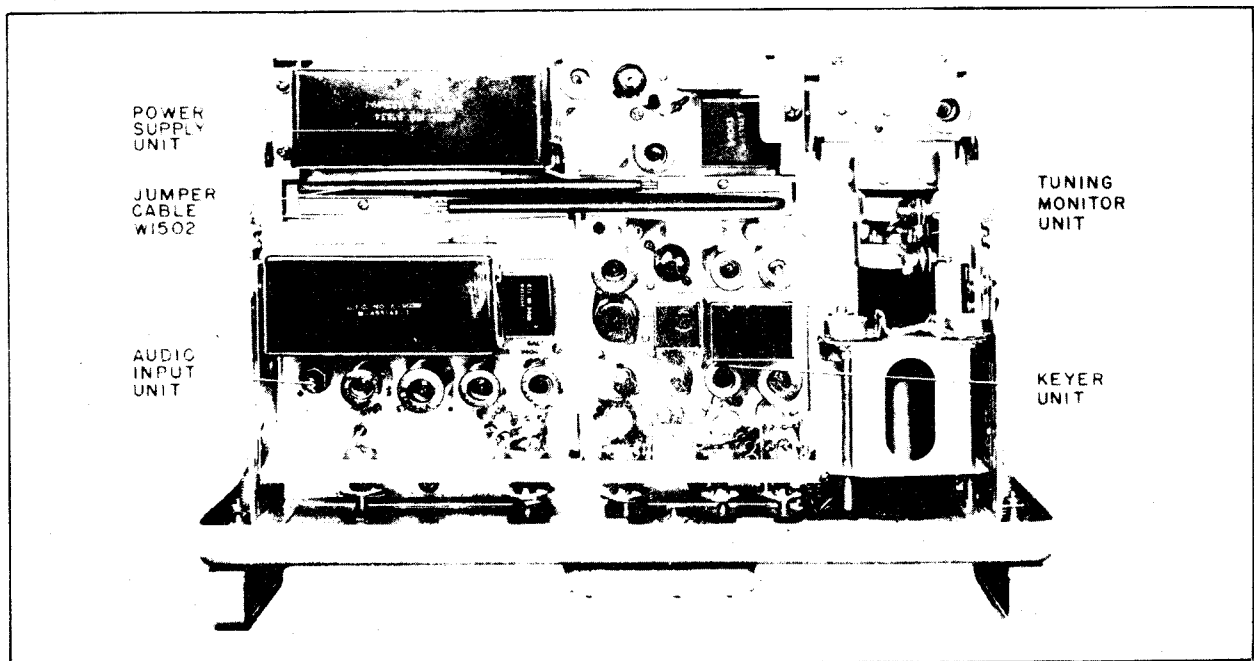

Figure 1-5. Frequency Shift Converter CV-60/URR Chassis, Top View
The Frequency Shift Converter CV-60 URR is made up of the following units, which are described below (see Figure 1-5).
(1) CONVERTER CHASSIS (see Figure 1-5). —The Converter Chassis supports all the Frequency Shift Converter units except the Cable Filter which is mounted on the back of the case. The separate units are interconnected by plugs and jacks when inserted in place. A plug P1501, on the rear of the main chassis connects the main chassis to J1201 on the Cable Filter when in operating position. When servicing the chassis, it can be slid out of the cabinet and locked in any one of four positions while still supported by cabinet rails. A jumper cable is provided for con-